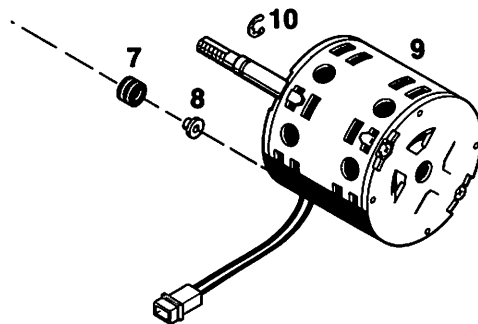

Figure 12-11
- Motor Bracket Assembly (See Figure 12-11)
- 1. Motor and Bracket Assembly (See Figure 12-11)
- #8 Flat Washer (Brass) (Qty. 8, Fig. 12-11, Item 7) 0402-1028-300